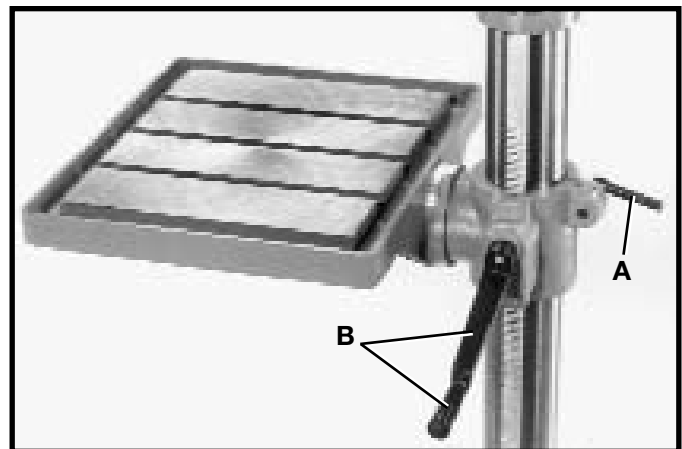

Fig. 29
1. The table can be raised or lowered on the column by loosening table clamp handle (A) Fig. 29, and turning the table raising and lowering handle (B). After the table is at the desired height, tighten handle (A).